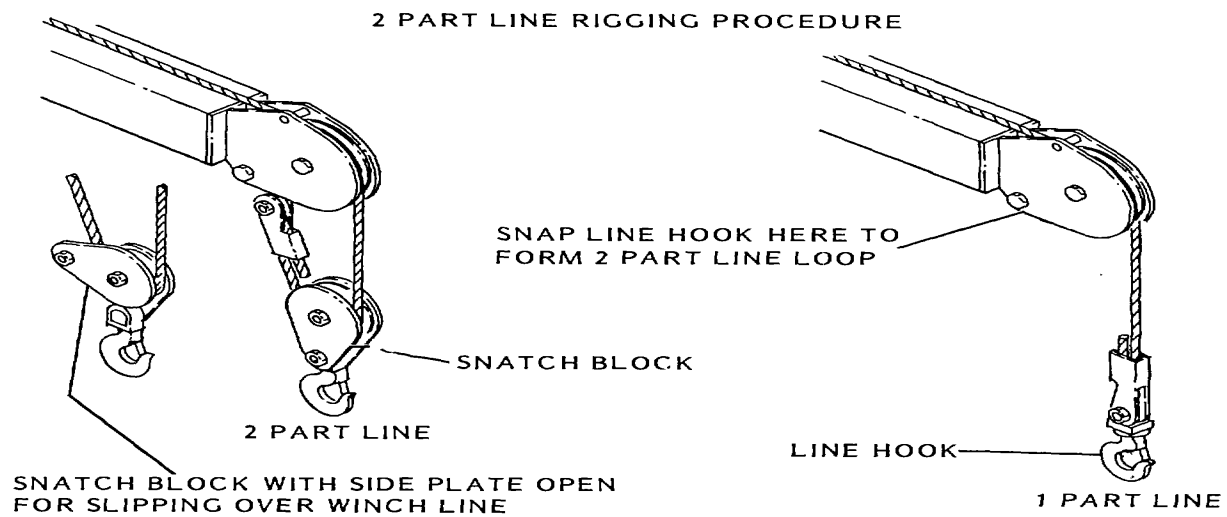

Figure 2-31. Two-part Line Rigging Procedure
- (10) If the load is greater than 3,800 pounds and crane is rigged with one-part line, change to two-part line as follows (see figure 2-31):